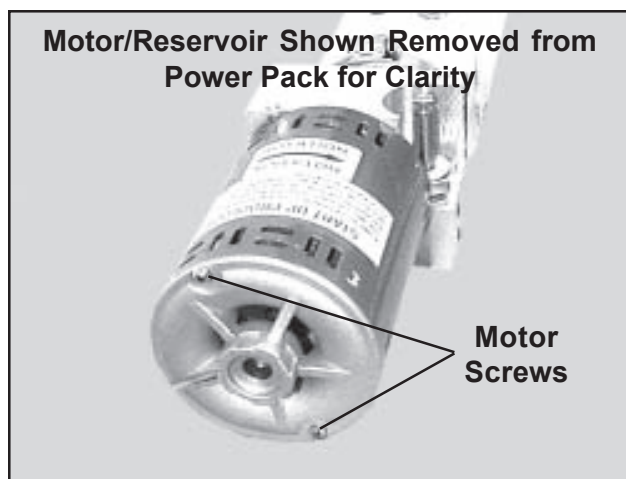

Figure 50. Motor Screws
5. With a flat-blade screwdriver, loosen the two long screws that hold the motor in place (Figure 50) and pull the motor slightly away from its mount. This will give you more room for the socket wrench required in Step 6.